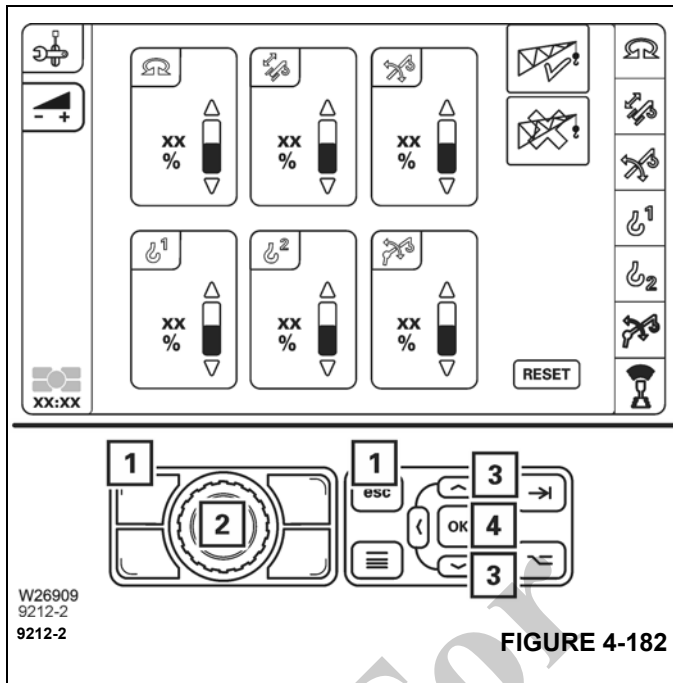

FIGURE 4-182
Change the value using switch (2), (Figure 4-182) or the buttons (3).